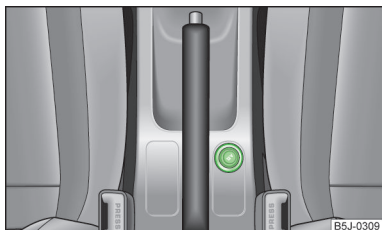

Fig. 78
- Press in the button in the cigarette lighter » Fig. 78.
The 12-volt electrical outlet (hereinafter referred to only as a power socket) is located in the front centre console » Fig. 78 on page 82 and in the luggage compartment » Fig. 79.